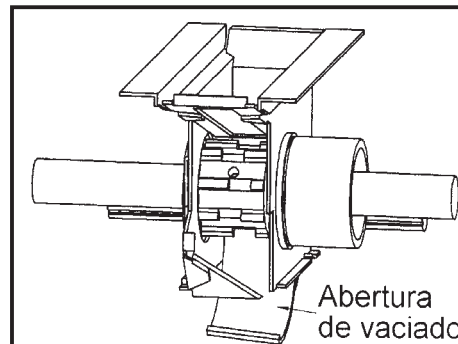

fig. 9
- Open the distributor system to empty the hopper (fig. 9).